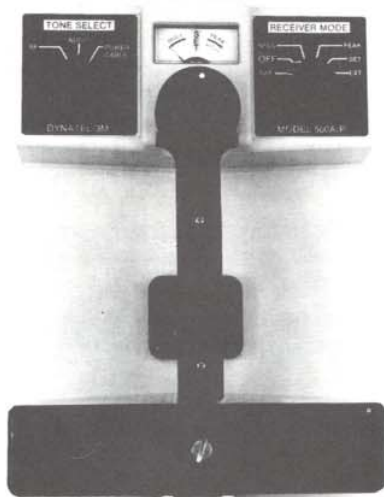

Fig. 5 — 500A/P Receiver Unit
- (b) The 500A/P RECEIVER operating panel (Fig. 5) has two selector switches flanking a level reference meter and sensitivity control. The tracing frequency is selected by the TONE SELECT switch, and the RECEIVER MODE switch controls the receiver operating modes.